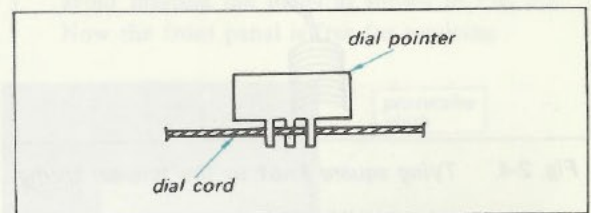
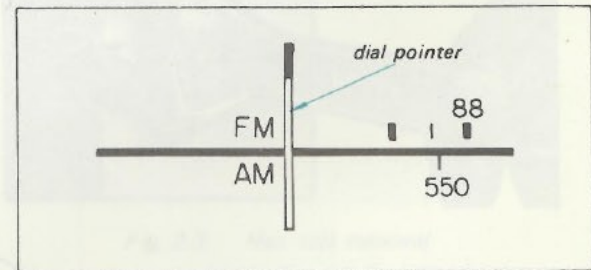

Fig. 2-9. Dial pointer installation
Fig. 2-10. Mechanical dial calibration
1. Put the dial pointer on the cord as shown in Fig. 2-9 and move it to a position shown in Fig. 2-10 on the dial scale when the tuning capacitor is set to the maximum capacitance.